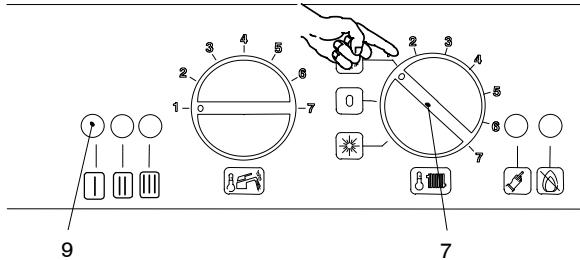

Fig. 2-4
- 3 If the boiler is to be used for c.h. and d.h.w position the function selector 7 as in Fig. 2-4. The appliance operation light 9 will flash every 2 seconds (operating boiler),